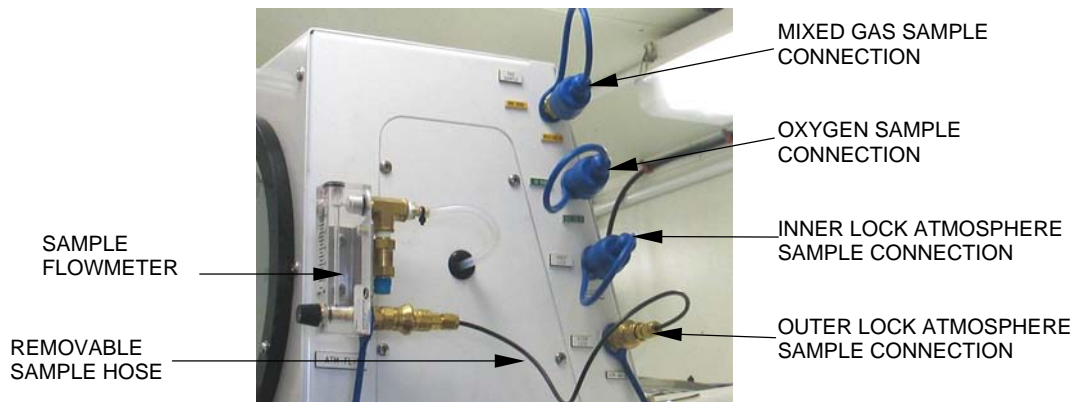

Figure 2-11. Air Sampling Manifold and Flowmeter
**2-5.6.1 Air Sampling Manifold and Flowmeter.** Located on the side of the Recompression Chamber Control Console are sampling connections for the oxygen BIBS header, the mixed gas BIBS header, the inner lock atmosphere, and the outer lock atmosphere (see Figure 2-11). These connections are quick disconnect fittings that are piped, via the sample hose, from gauge lines and cutout valves to the appropriate systems to allow representative samples of the air quality during operation of the recompression chamber. The flowmeter controls the gas flow rate to the sensors to ensure their proper operation.